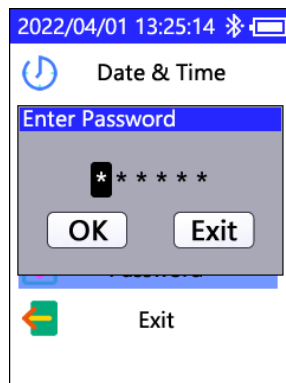

Figure 15. Enter Your Current Password
2. Enter your current calibration password (Figure 15).